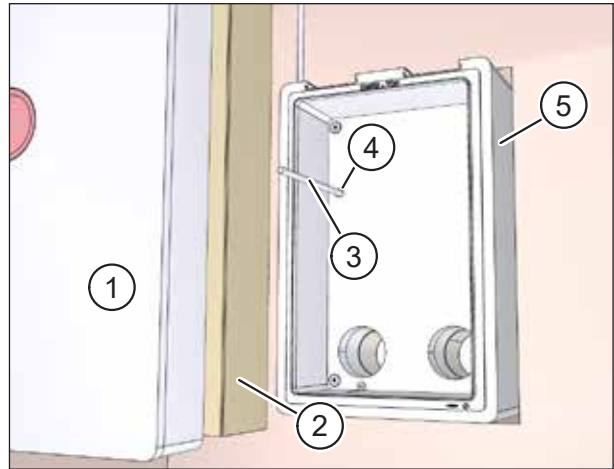

Fig. 20: Inserting the wall box
- ▶ Remove the plaster cover (item 1 in Fig. 20) from the wall box (item 5 in Fig. 20).
- ▶ Remove the cardboard insert (item 2 in Fig. 20) from the wall box (item 5 in Fig. 20).
- ▶ Thread the mains cable and the control cable, if required (item 3 in Fig. 20), through the cable inlet in the wall box (item 4 in Fig. 20).
- ▶ Push the wall box (item 5 in Fig. 20) fully into the wall breakthrough.